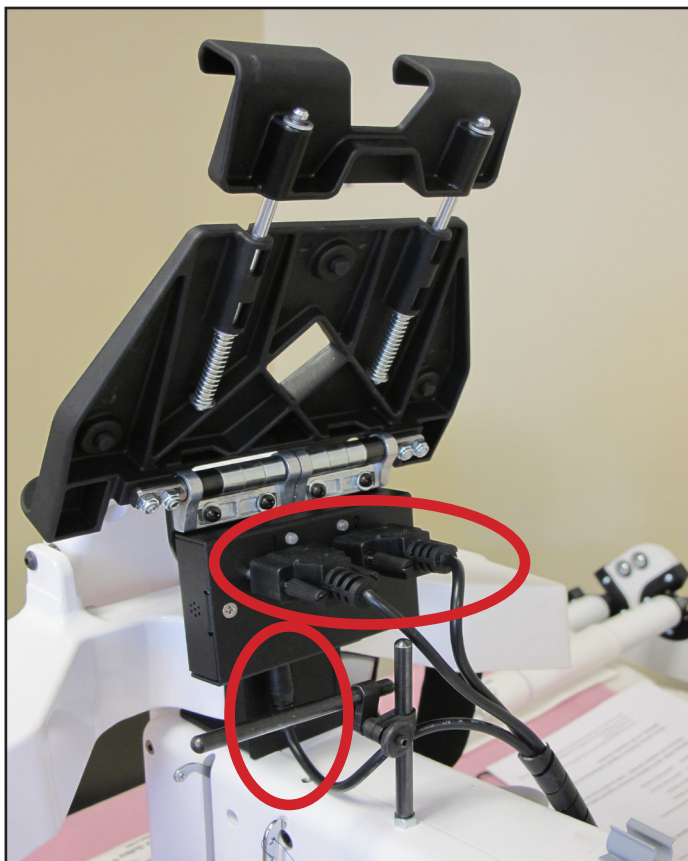

Figure 31
15. Attach the two 9-pin serial cables to the appropriate connectors labeled # 1 and #2 on the black box mounted on the back of the new bracket (*Figure 31, upper circled area*). See *Figures 7 a-c* on *Page 6* for details.
16. Plug the barrel connector (from the third cable wrapped together with the two serial cables) into the middle connector on the bottom of the black box (*Figure 31, lower circled area*).